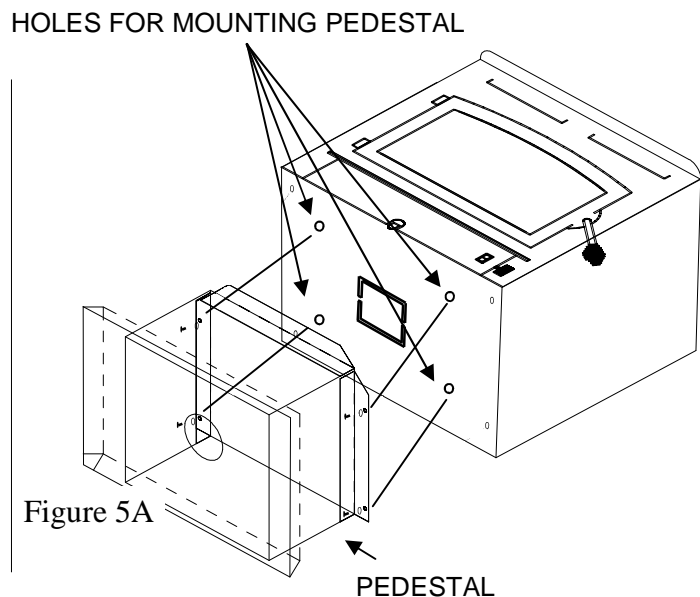

Figure 5A
6. **(Pedestal Kit):** If pedestal kit is being used and **(out side air is required for residential free standing installation (see page 29 Out Side Air Installation))**. Open freestanding kit and obtain stand. Place stand against bottom of heater (angle side to heater). Center stand front to rear and also center stand left and right. Mark screw locations on bottom of stove through outer holes of stand mounting angles. Set stand aside and drill four 7/32" holes in heater bottom. Then mount stand to bottom of heater with screws provided. (See Figure 5A).
7. Obtain four (4) 3/16" self-tapping screws and secure stand to heater.